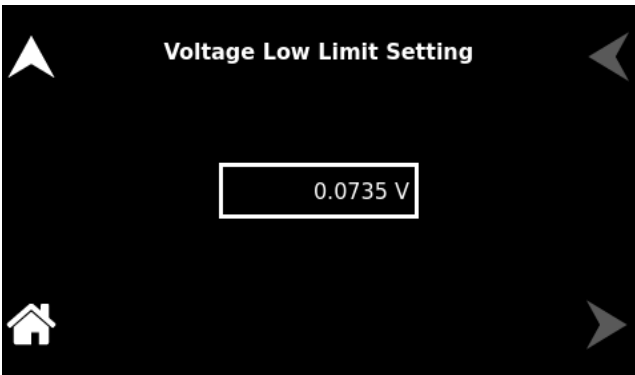

Figure 10-51. Voltage Low Limit Setting
**Voltage Low Limit** Users can set the voltage low limit value within the specified limit and which functions as a trip limit. Refer to Figure 10-51.